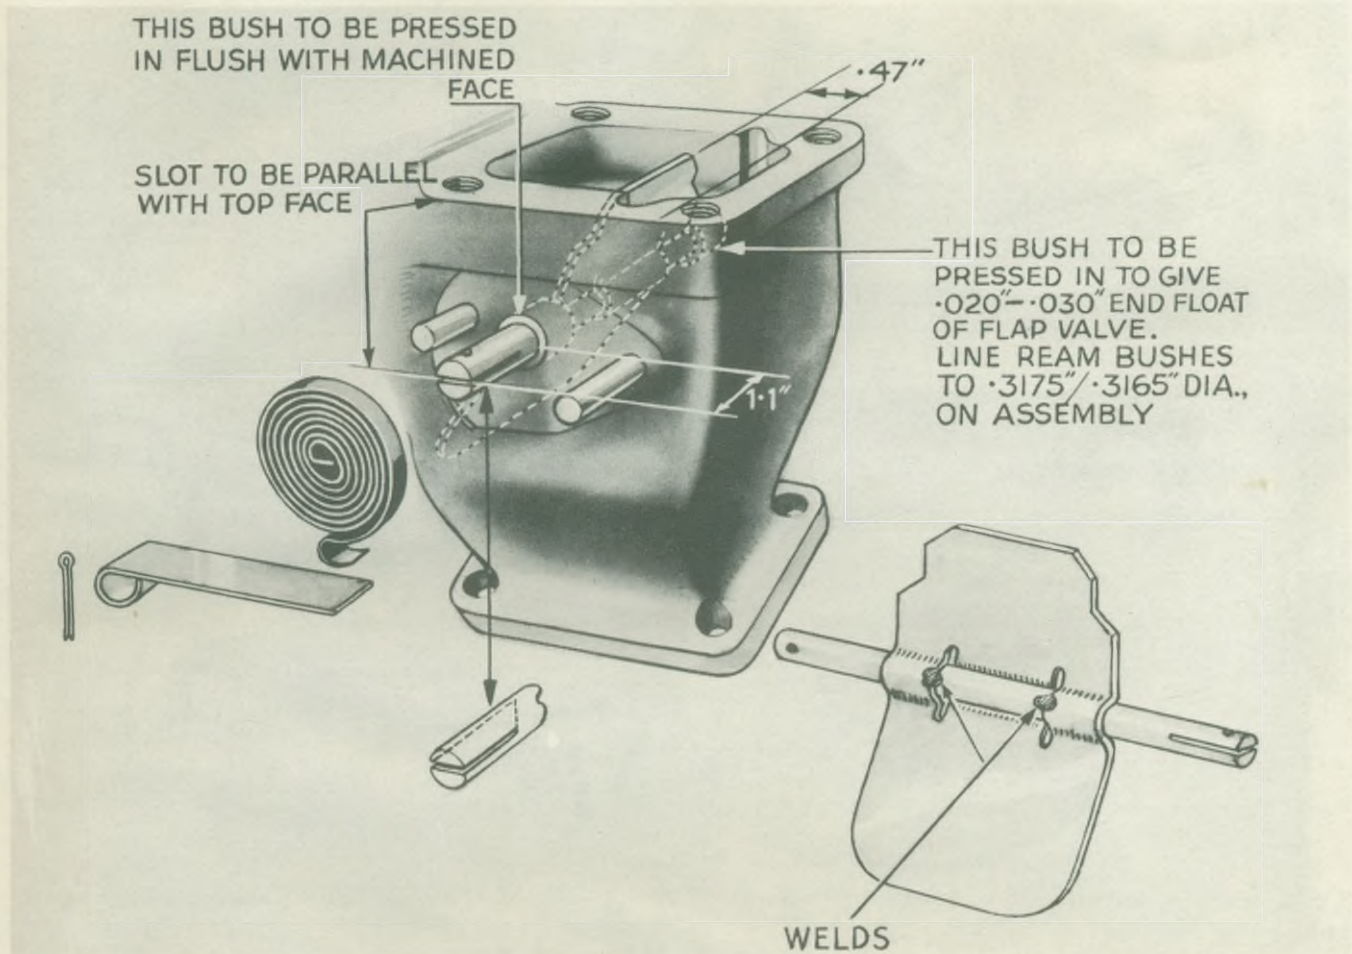

Fig. 4. Giving details for the fitting of new bushes and flap valve spindle.
6. Having positioned the flap valve in the manifold, thread the spindle, with the balance-weight fitted, into the position shown in Fig. 4 so that the short side of the slot is towards the outside and the slot itself is horizontal.
7. Having centralized the flap valve without altering the position of the spindle, place this valve as shown in Fig. 4 and, whilst retaining the valve in this position, spot weld the valve to the spindle as shown in Fig. 4. This operation is best carried out by electric welding and **must be performed with a non-corrosive type of electrode**. In the Works we use a NICREX A.C. welding electrode. If, for any reason, Oxy-Acetylene welding has to be used, a **non-corrosive**
8. The inner end of the bi-metal spring is fitted into the slot in the spindle, with valve retained in the position shown in Fig. 4, and the other end of this spring is then hooked over its anchor pin. The stop plate is located in the slot so that the lower portion of the divided spindle is engaged. The split pin is then fitted to secure the spring and stop plate.